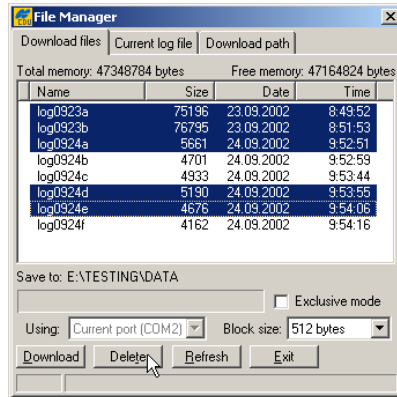

Figure 5-14. Delete Files
3. Click **File ► File Manager** and select the file(s) to delete on the *Download files* tab (Figure 5-14 on page 5-9).
4. Click **Delete** (Figure 5-14 on page 5-9).